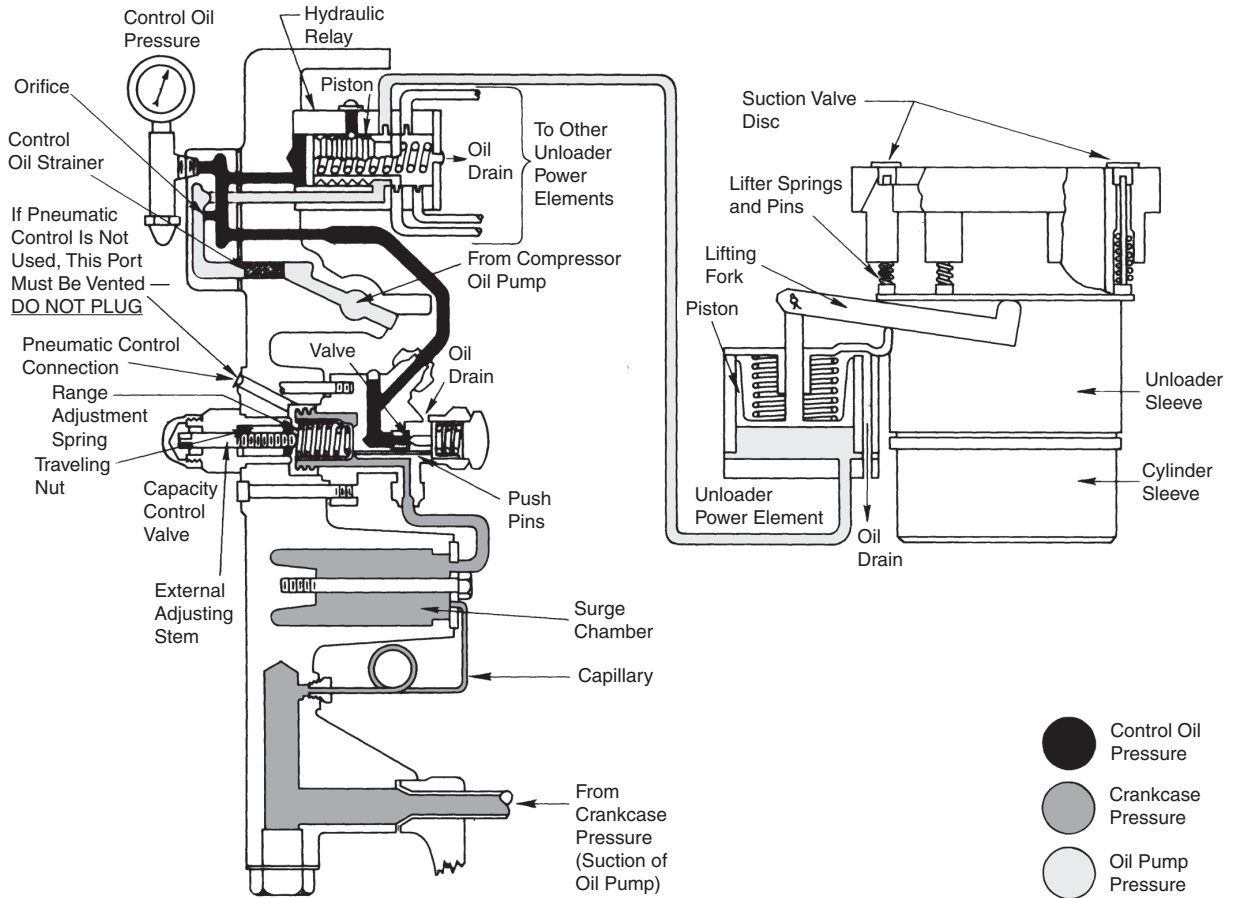

Fig. 6 — Capacity Control — 5H120/126
- Incorporate a pressure control valve that is internally installed on the compressors oil pump bearing head. The pressure control valve is manually adjusted to direct compressor oil to the unloader power element(s) to unload and load the compressor’s cylinders at defined suction pressures for capacity control. (See Table 2 and Fig. 6 and 7.)
5H120/126 CAPACITY CONTROL (SEE FIG. 6)